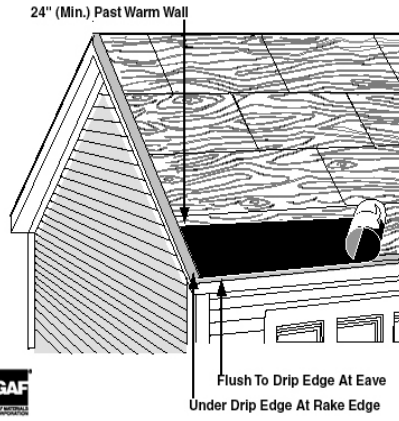
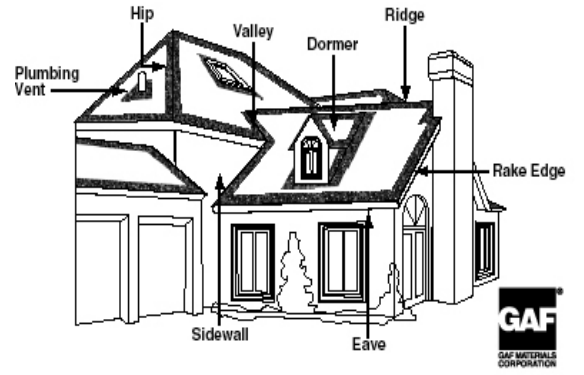

Figure 2
Figure 3
**The first is to install a leak barrier** such as StormGuard® or Weather Watch® Leak Barrier. These membranes help to prevent water from entering through the roof deck. Ice dam protection is required by most codes in northern climates and should be installed a min. of 24" beyond the "warm wall" of the house. **Fig. 2** Additionally, for added protection, leak barriers should be installed at areas as noted in **Fig. 3**.
**For a leak barrier, Weather Watch® or StormGuard® underlayment can be used** as the eave protection membrane. These membranes can be installed at the areas as shown in **Fig. 3** as well.